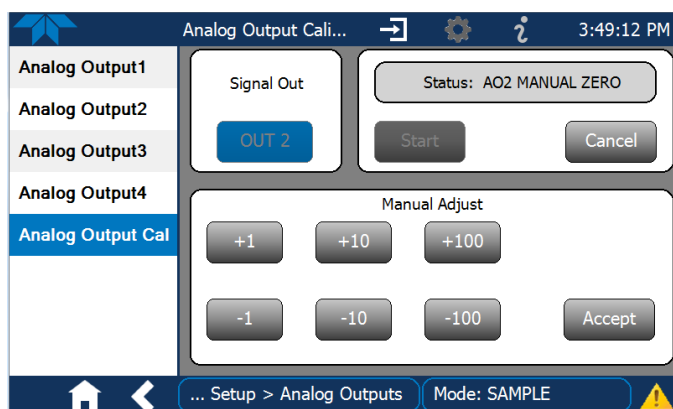
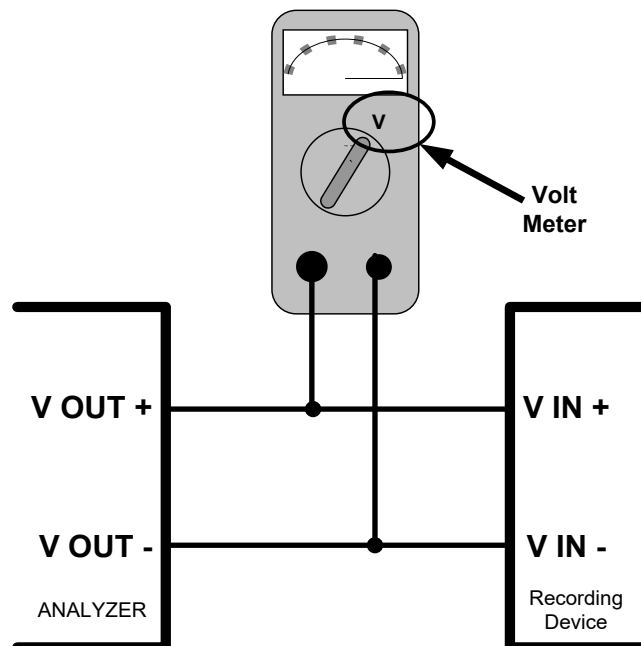

Figure 2-35. Analog Outputs Option Manual Calibration Screen (AOUT2 Example)
Figure 2-36. Setup for Checking / Calibrating DCV Analog Output Signal Levels
- MANUAL for individual calibration (Figure 2-35) of analog outputs where manual adjustments can be made (the only calibration type allowed when Current is selected for the Range). See Sections 2.5.8.1 and 2.5.8.2 .
It is possible to manually calibrate the voltages by using a voltmeter connected across the output terminals (Figure 2-36) and changing the output signal level when Manual is selected in the Calibration Type field of the Analog Output screen (Figure 2-35).